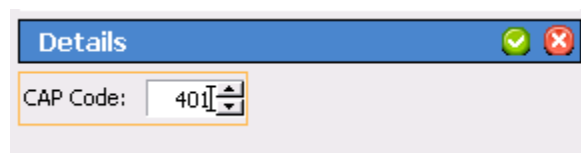

Figure 35: Add CAP Codes
2. Type a pager's CAP code in the **Details** area shown in Figure 35 and click on the **Apply** button.